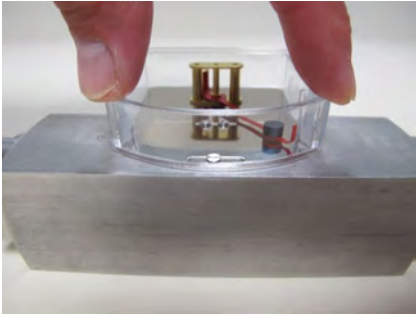

Fig. 63
- 14.** Place the plastic housing on the display base plate and press down until it snaps into place (Fig. 63)